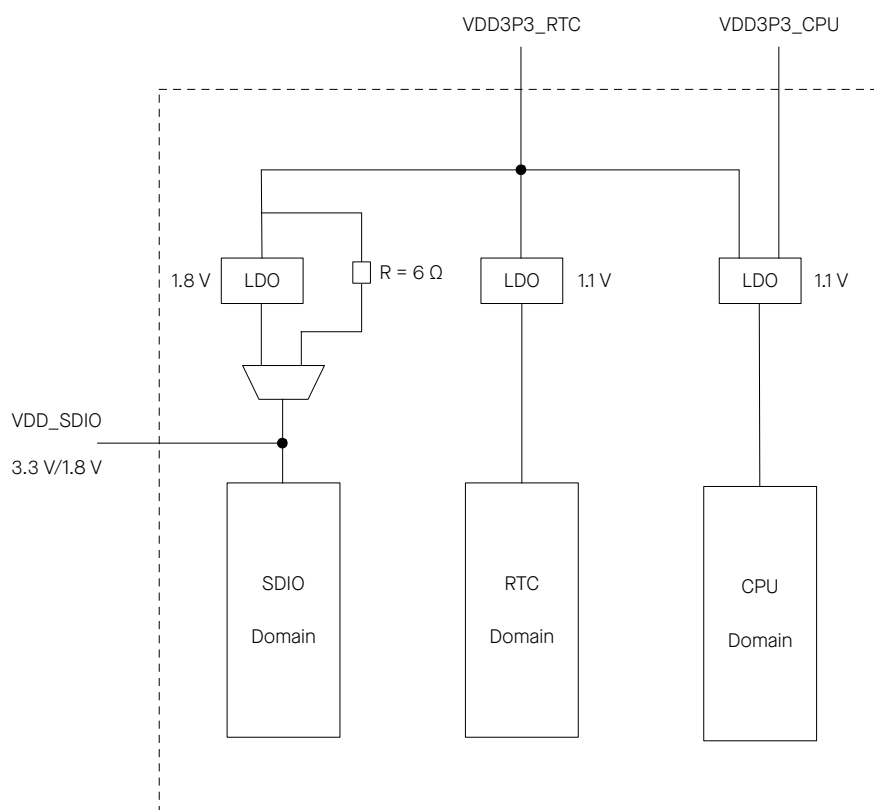

Figure 2-3. ESP32 Power Scheme
The power scheme is shown in Figure 2-3 ESP32 Power Scheme.
- As the in-package flash (ESP32-U4WDH) and the in-package PSRAM (ESP32-D0WDRH2-V3) operate at 3.3 V, VDD_SDIO must be powered by VDD3P3_RTC via a 6 Ω resistor. See Figure 2-3 ESP32 Power Scheme.